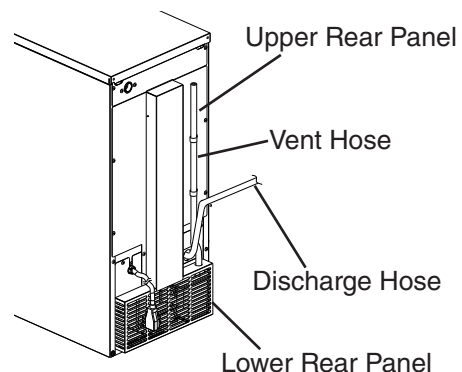

Fig. 3
- 7) Pour another 24 to 30 oz. (710 to 890 ml) of water into the appliance's storage bin, then completely restrict the discharge hose while DP is operating. See Fig. 3. Pour more water into the appliance's storage bin until the appliance turns off. DP will continue to operate. Check for leaks.